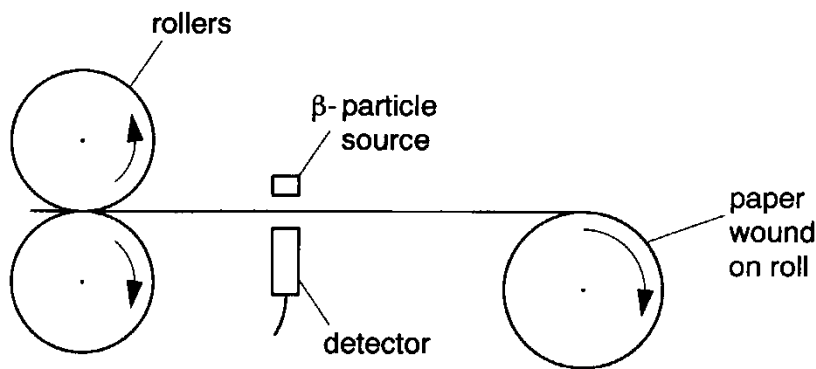

Fig 3
- (b) Fig. 3 shows how a β -particle source may be used to measure the thickness of paper as it is being produced.